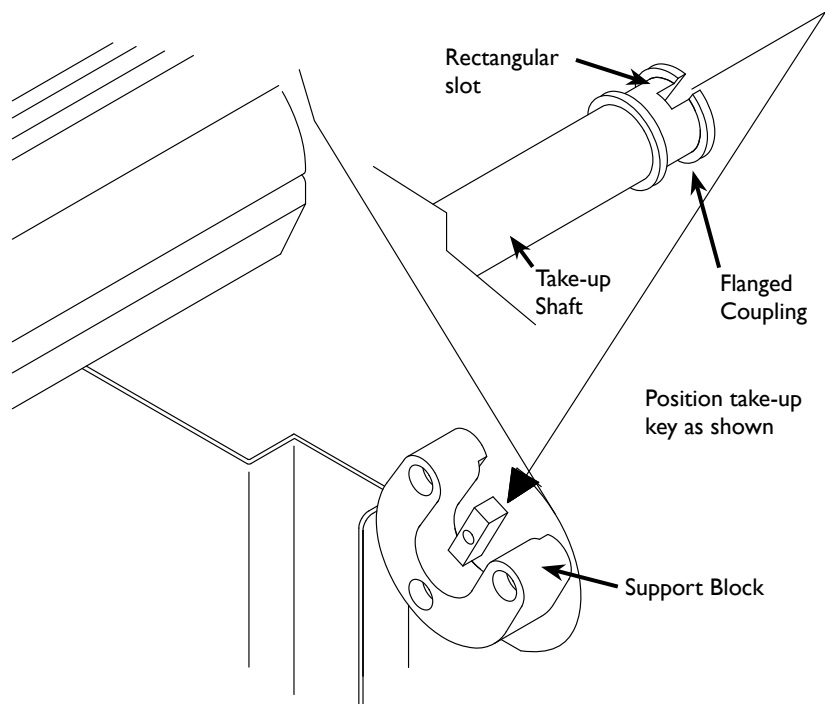

Figure 19. Installing the take-up shaft in the support blocks.
3. Use the keypad Unroll key to rotate the take-up key until it is oriented perpendicular to the support block opening as shown in *Figure 19*.
- a. With the power off, rotate the take-up shaft by hand until the rectangular opening in the flanged coupling is perpendicular to the opening in the support block (see *Figure 19*).
2. Rotate the take-up shaft by hand until the rectangular opening in the flanged coupling is perpendicular to the opening in the support block (see *Figure 19*). Remove the shaft.